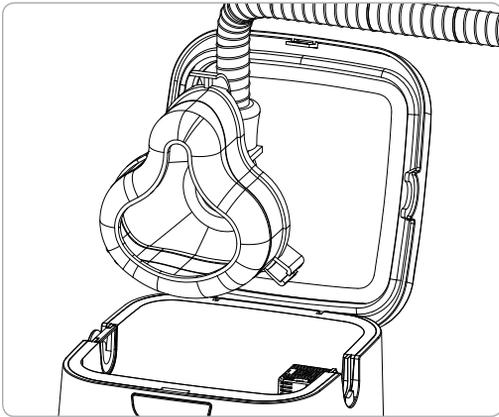

Figure 7. Put mask into SoClean Chamber
4. Insert your mask into the SoClean Chamber allowing its attached hose to rest in the open hose slot, opposite the Removable Hose Slot Plug (figure 7).